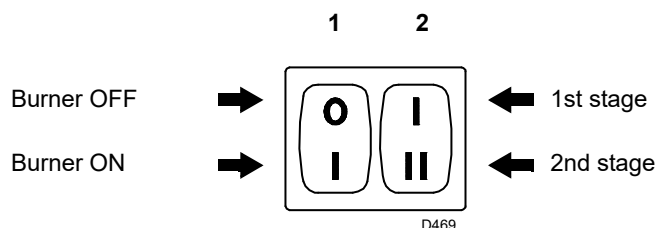
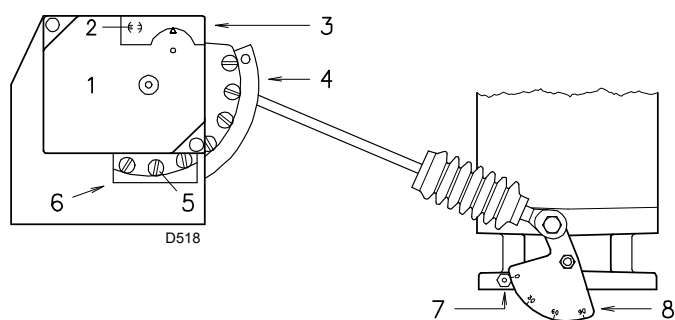

Fig. 27
Fig. 28
- switch 1)(Fig. 27) in "**BURNER ON**" position;
- switch 2)(Fig. 27) in "**1st STAGE**" position.
In the above description, we left the burner running, operating in 1st stage. Now move switch 2)(Fig. 27) to 2nd stage position: the servomotor will open the air damper and, at the same time, the gas butterfly valve at 90°.
Progressively adjust the end profile of cam 3)(Fig. 28) by turning the screws 5).
Move the switch 2)(Fig. 27 on page 24) in "1st STAGE" position: the servomotor 1)(Fig. 28) will close the air damper and, at the same time, will also close the gas butterfly valve to 15°, i.e. to the factory setting.
- If it is necessary to increase it, pass to 2nd stage by activating switch 2)(Fig. 27 on page 24) and slightly increase the angle of the orange lever with small, regular movements, i.e. bring it from an angle of 15° to 17° - 19°...
Progressively adjust the initial profile of the cam 3)(Fig. 28) by turning the screws 4).
Turn off the burner using the switch 1)(Fig. 27 on page 24) and turn the intermediate screws of the cam so that the cam tilt is progressive.